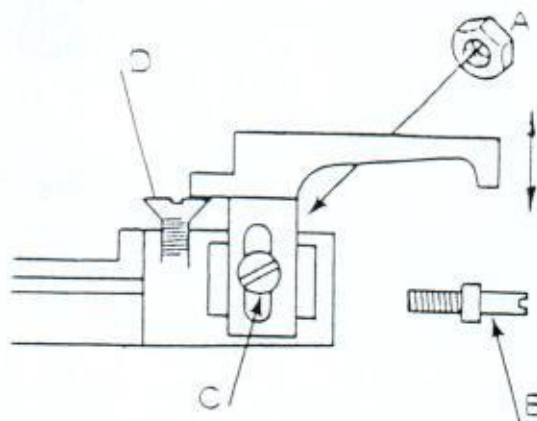

Fig. 10
Loosen the nut A in Fig 10. turn the feed dog screw B to keep the horizontal to needle plate.
1. Loosen the feed dog screw C in Fig 10